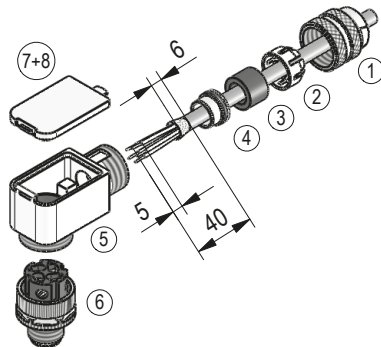
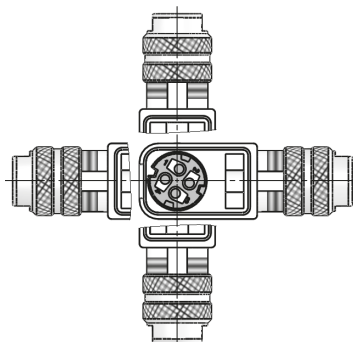

Fig. 7: Right angle mating connector M12
Fig. 8: Angled positions
- Accessory SIKO art. no. "87600" M12 D coded (plug pin 4 pole Ethernet Port 1 (IN) + Port 2 (OUT)) (Fig. 7 + Fig. 8).
#### Mounting (Fig. 7)
#### Changing the angle position (Fig. 8)